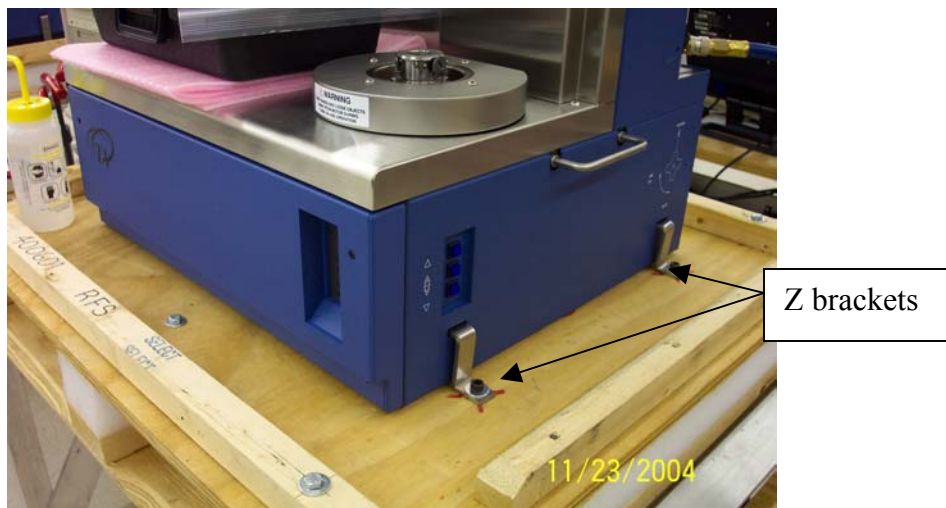

Figure 9
- 22.) Insert the 4 Hold down Z-Brackets in the 4 slots on the sides on the instrument (Figure 9). Use the 4 short standard Socket-head screws with washers to secure the hold down Z-Brackets on the instrument and bolt them down carefully on the pallet with ¼” standard hex keys. Do not over-tighten the screws on the pallet so as not to damage the embedded threaded nuts in the pallet.